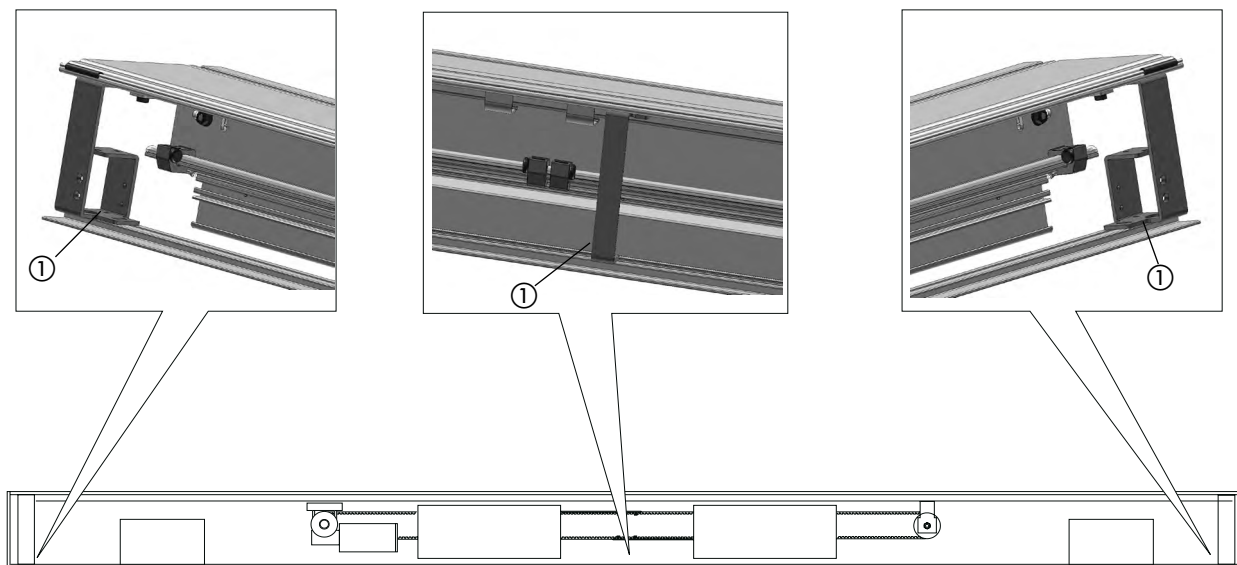

fig. 6
Remove the lower housing profile, unscrewing the securing screws on the three support brackets as shown in fig. 6 ref. ①.